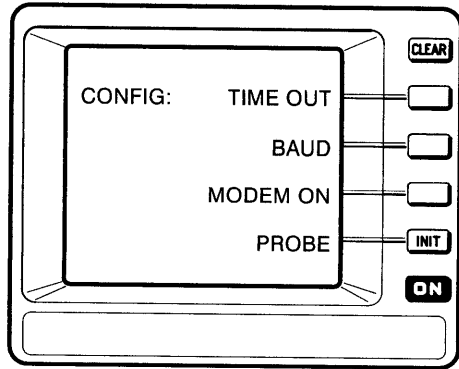

Figure A-9: The Configuration Menu
- Step 2:** Press the menu button next to the menu item **CONFIG** to access the configuration menu, as shown in Figure A-9.